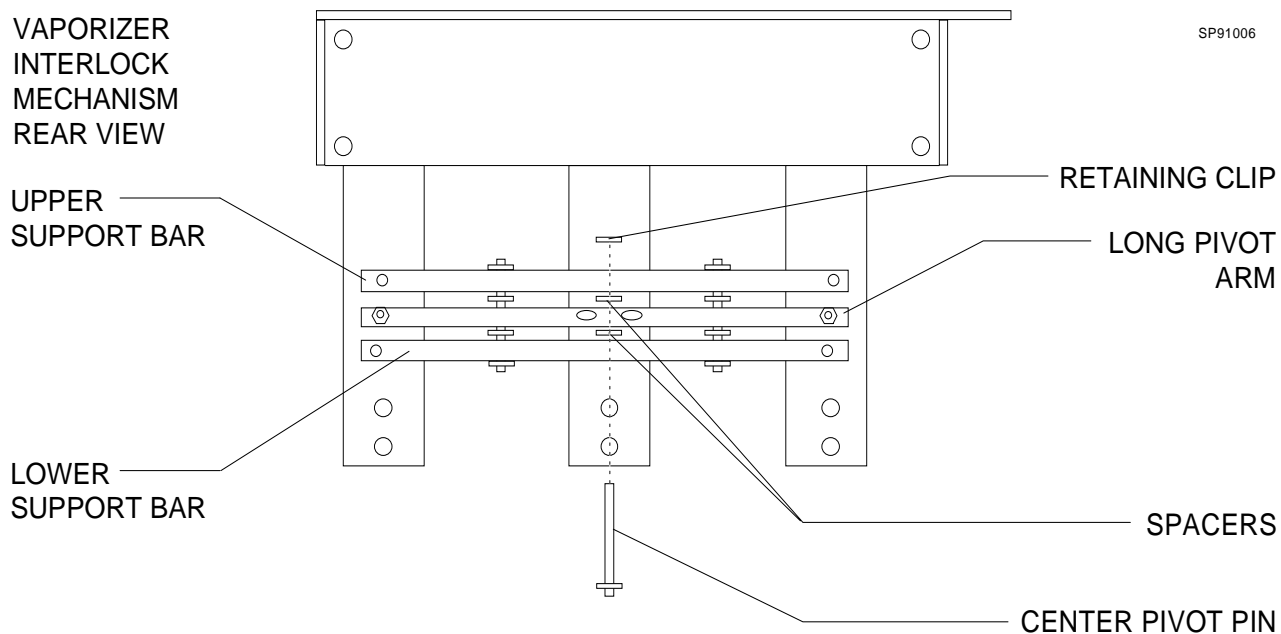

Figure 2: INTERLOCK MECHANISM - LONG PIVOT ARM INSTALLATION
10. Remove the upper retaining clip securing the center pivot pin to the vaporizer interlock assembly. See Figure 2.